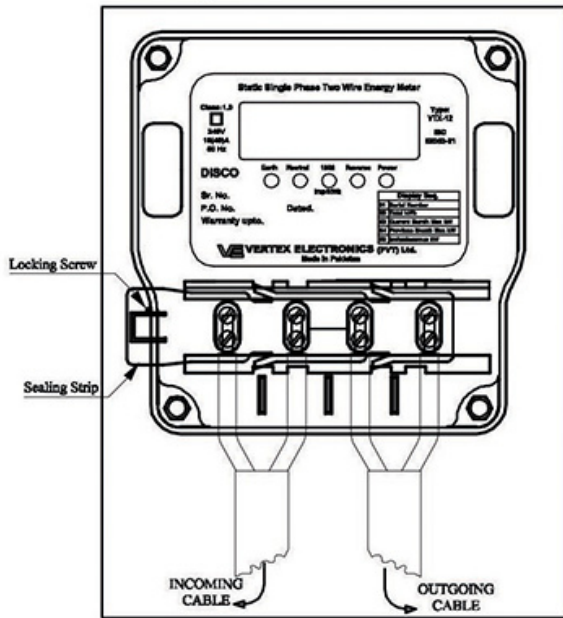

Fig:3
2. Place meter on these Rag Bolts vertically upward and secure it by tightening the washers & nuts over the Rag Bolts (see Figure 3).